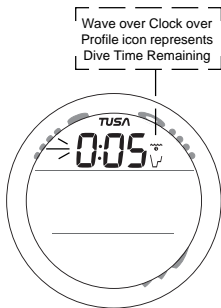

Fig. 41 - SET DTR ALARM
**Set DTR Alarm** information includes (Fig. 41):